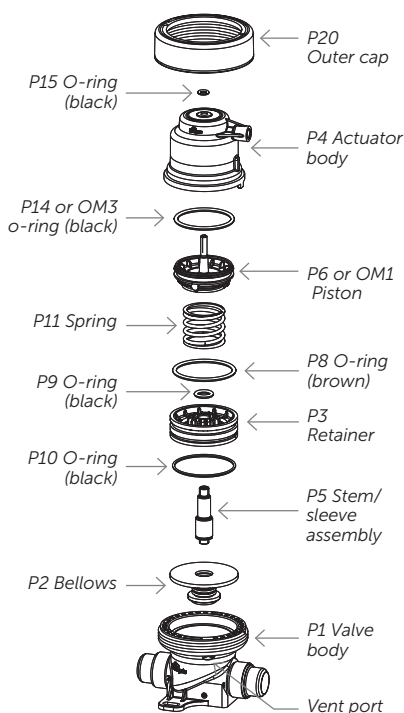
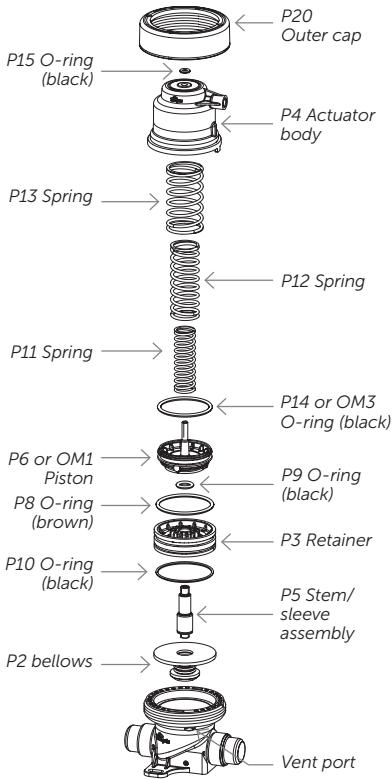

Figure 1. Normally open valve.
Figure 2. Normally closed valve.
1. To become familiar with the components in the valve assembly, refer to Figure 1 (normally open valve) and Figure 2 (normally closed valve).